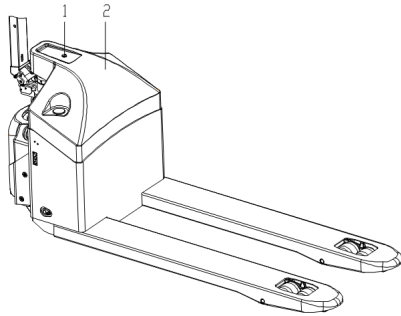

Fig.11
- (Fig.11) Screw out the screw 1 and remove the cover 2;